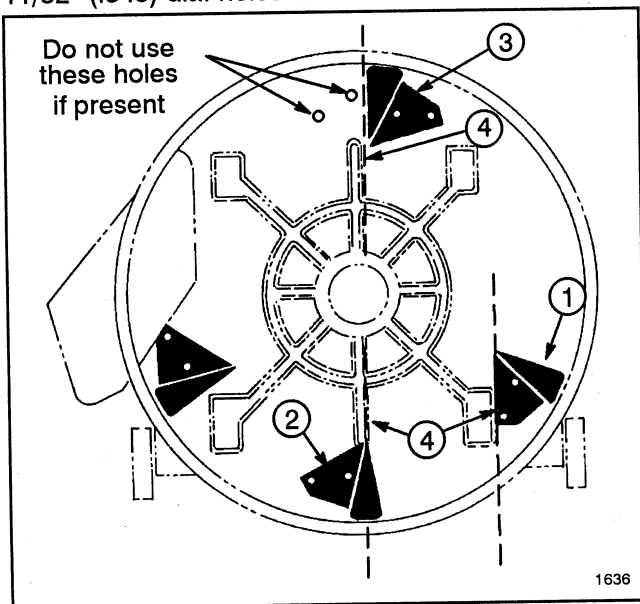

Figure 6 (Bottom View)
1. Position first rear kicker on underside of mower deck so flat edge is aligned with embossed surface of deck and bent edge is firmly against mower deck wall (Fig. 6).
2. Position second rear kicker so point of kicker aligns with embossed surface of mower deck and bent edge is firmly against mower deck wall (Fig. 6).
3. Position third front kicker so point of kicker aligns with embossed surface of mower deck and bent edge is firmly against mower deck wall (Fig. 6).